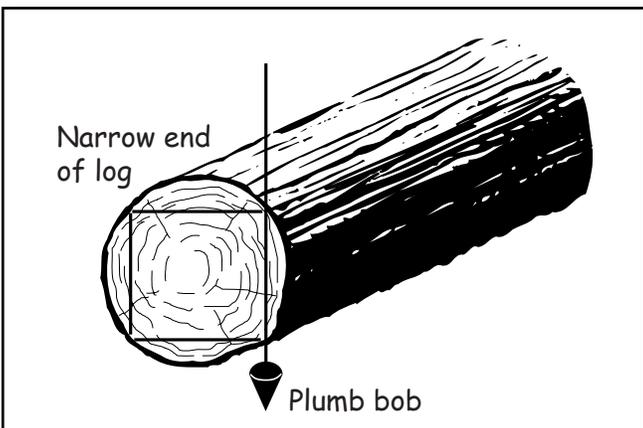

Figure 98—Lay out the dimensions of the beam on the small end on the log.
- Using a level or a plumb bob (Figure 98), scribe a vertical line on the small end of the log to mark the depth to which you want to hew. Then, to make sure the log